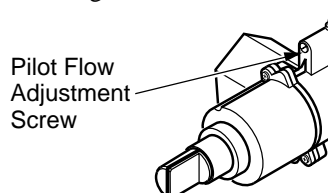

Figure 16 - Pilot Flow Adjustment Screw
After installation is complete and the unit has been ignited, it may be necessary to adjust the pilot. Use a small flat-head screwdriver to turn the flow adjustment screw on the manual control valve (see Figure 16). Turn the screw counterclockwise to allow more gas to flow or clockwise to restrict gas flow. Be careful to limit the turns to 2 1/2 from the fully closed position. Further turning can result in gas leaking at the adjustment screw and the pilot flame size will diminish. The proper pilot flow will result in a strong blue flame between 1/2" and 1" long.
- Access the pilot adjustment screw through slot in valve cover. Turn adjustment screw clockwise to decrease (close) or counterclockwise to increase (open) the flame to proper size (see Figure 16, page 8). Do not remove the adjustment screw.